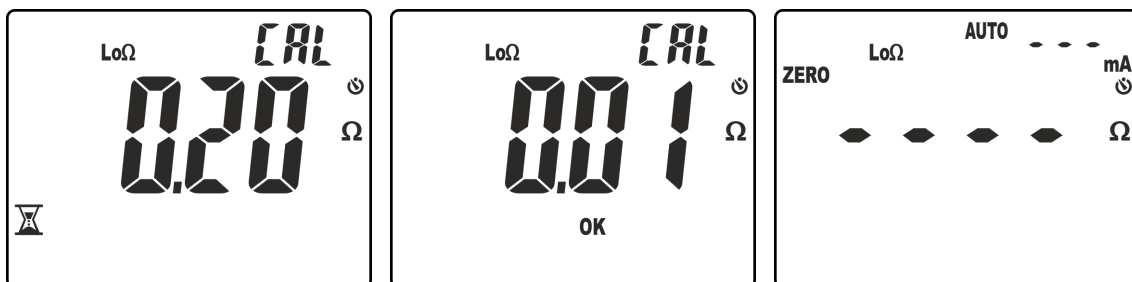

Fig. 33: Results of a correctly performed zeroing
4. The instrument performs the first measurement, detecting the resistance of the test cables (see Fig. 33 – left side). If the compensated value (ZERO) is $\leq 5.00\Omega$, the instrument keeps it saved and carries out the following test by performing a second measurement and comparing this new value to the compensated one. If the difference between the values is $\leq 0.01\Omega$, calibration is confirmed and the message “OK” is displayed (see Fig. 33 – middle). Subsequently, the instrument goes back to the measuring screen with the message “ZERO” displayed to indicate that cable compensation is present.